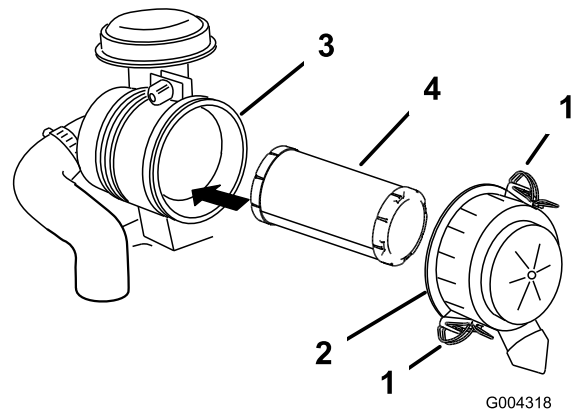

Figure 36
3. Release the latches on the air cleaner and pull the air-cleaner cover off the air-cleaner body (Figure 36).
5. Gently slide the filter out of the air-cleaner body (Figure 36).
2. Carefully slide the filter into the air-cleaner body (Figure 36).
3. Install the air-cleaner cover and secure the latches (Figure 36).